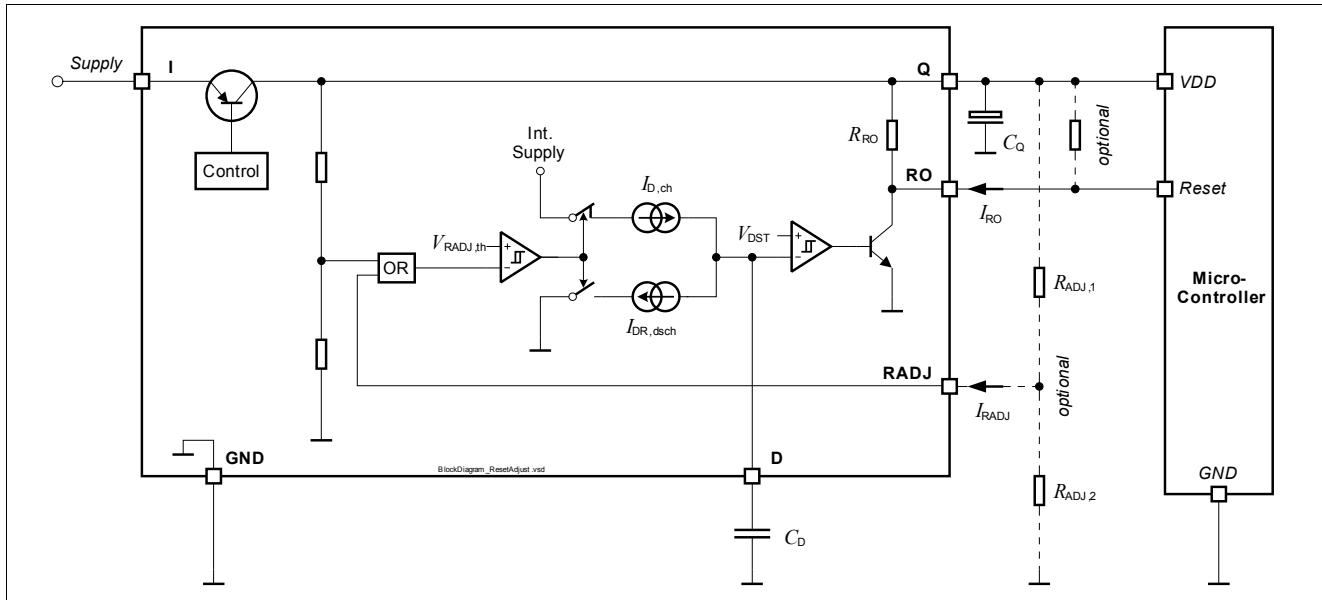

Figure 6 Block Diagram Reset Circuit
- $R_{ADJ,1}, R_{ADJ,2}$: Resistors of the external voltage divider, see Figure 6.
all voltages with respect to ground, direction of currents as shown in **Figure 6** (unless otherwise specified).
all voltages with respect to ground, direction of currents as shown in Figure 6 (unless otherwise specified).